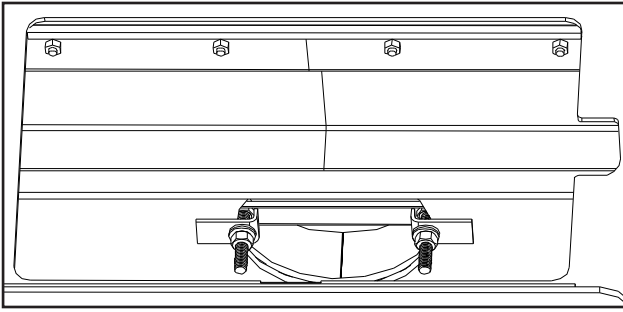
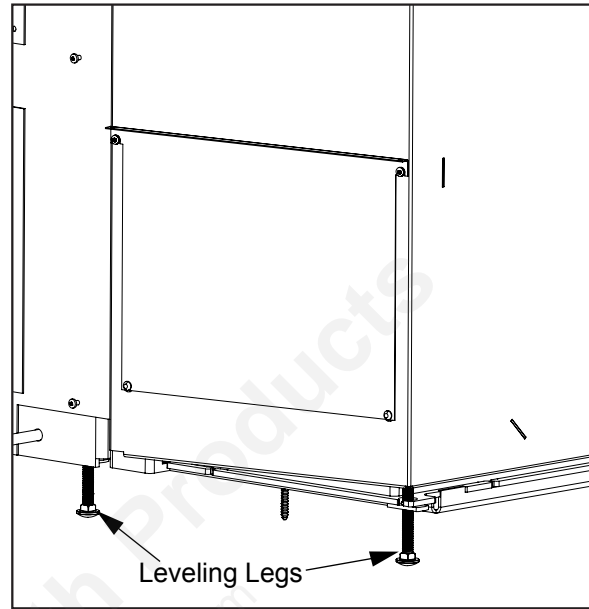

Figure 14: Removable flue collar in place.
Figure 15: Leveling legs.
- f)** Place the Collar Puller, over the two bolts of the Flue Collar and pull it into place (see Figure 14). Ensure that the bolts are to the left and right of the hole. If they are not, the front secondary air tube will need to be removed in order to install or remove the C-Cast Ceramic Baffles.
- h)** Re-install C-Cast Ceramic Baffles and the rear two (2) secondary air tube (see C-CAST CERAMIC BAFFLE INSTALLATION).
- 3.** There are four (4) leveling legs (shown in Figure 15), two (2) on each side, one at the back and one at the front of the unit. Adjust the legs using a $\frac{3}{8}$ " wrench to ensure the unit is stable.